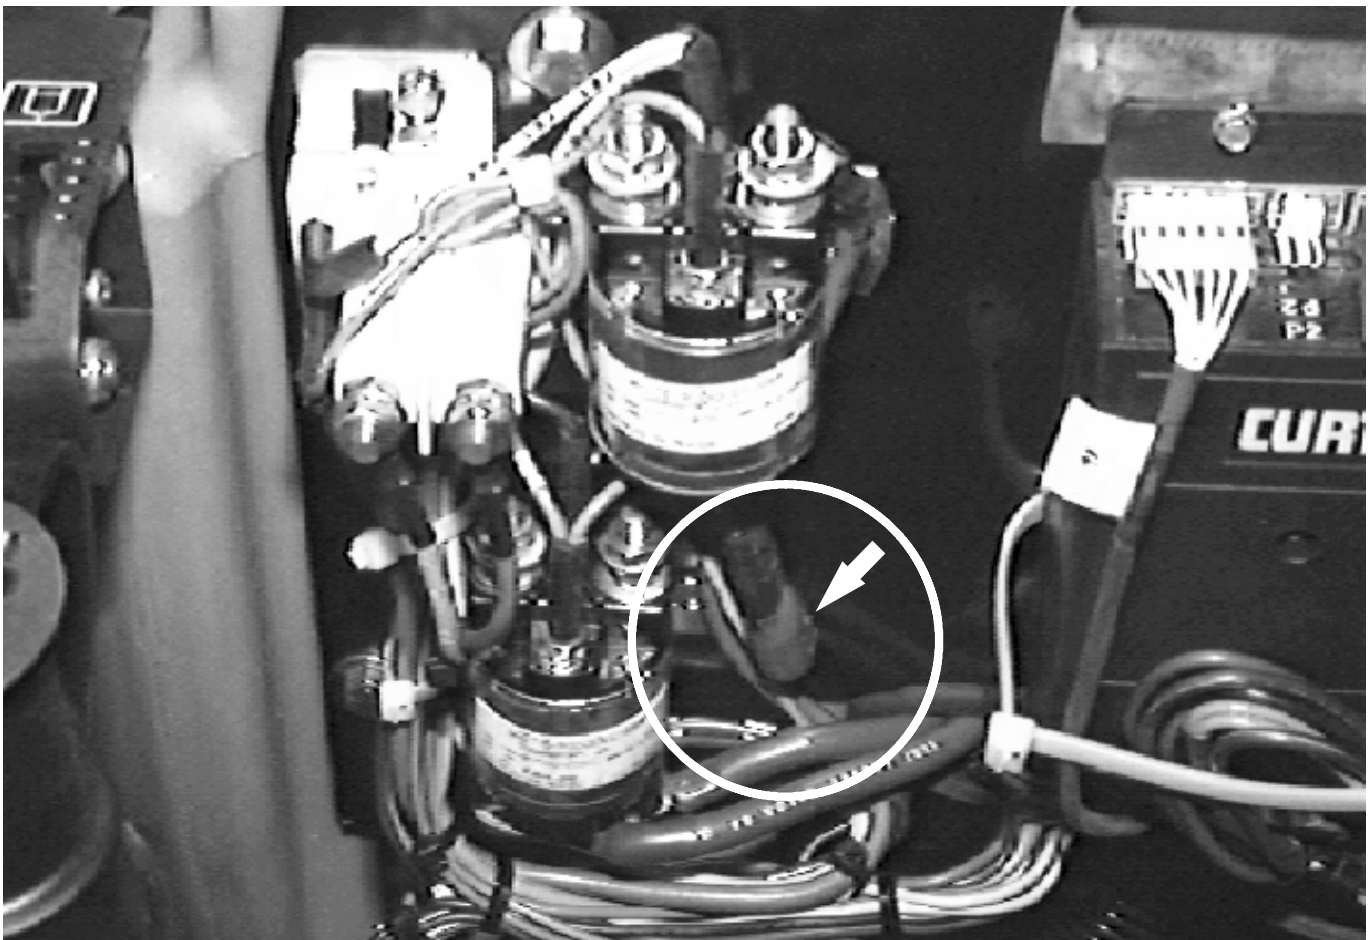

FIG. 2 - Main Power Contactor
1. Locate the two small red electrical devices (part # 222290) on the left side of panel, near the main power contactor. (Refer to Fig. 2)